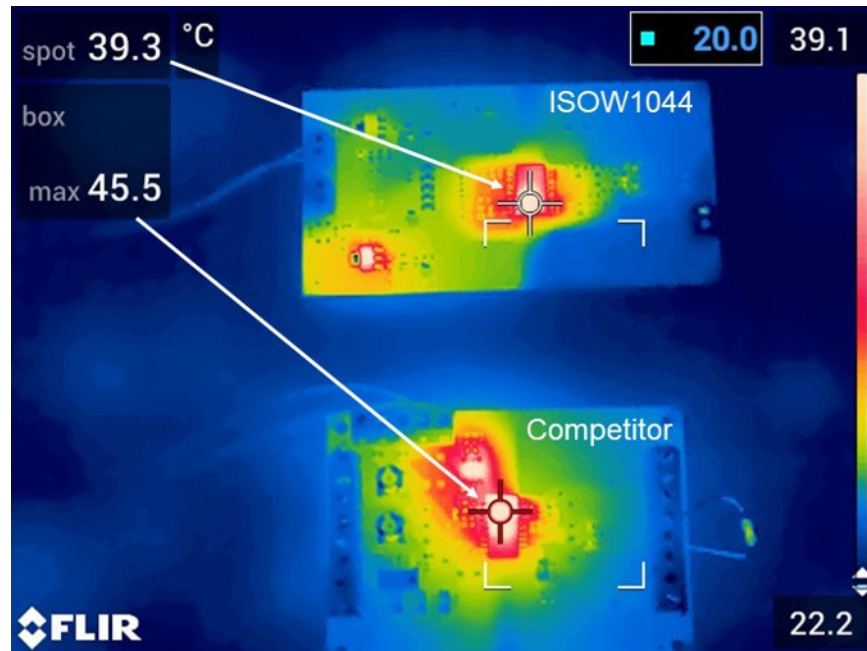

Figure 5. Thermal Performance of ISOW1044 and Competing Device
Packing multiple die inside a single chip does add the challenge of thermal performance of the integrated device. The ISOW1044 and a competing device were both tested under the same conditions at CAN with Flexible Data Rate (FD) speed of 5 Mbps and the thermal images were captured by a thermal gun. The results shown in Figure 5 where the top image refers to the ISOW1044 and has a maximum temperature of 39.3 °C. A competing device is also shown in Figure 5 and is running 6.2°C hotter than the ISOW1044. 47% efficiency of the ISOW1044 enables lower power dissipation and extends the ambient temperature range support from -40C to 125C.